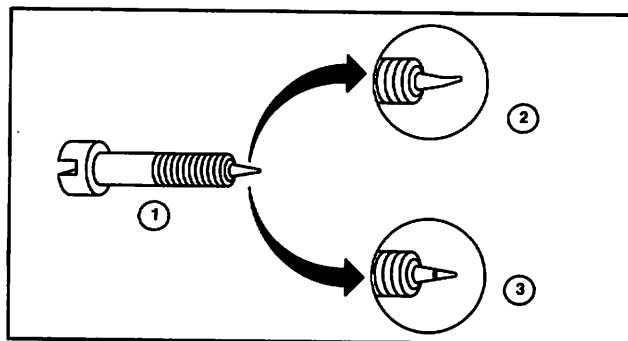

Fig. 19
- Inspect mixture adjustment needle (1), Fig. 19, and replace if bent (2), or grooved (3).